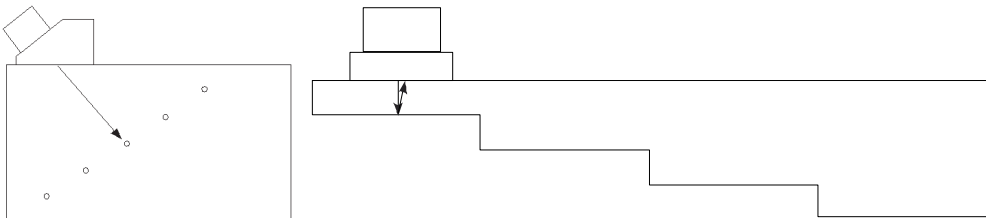

Figure 5-18 Calibration blocks for the DAC calibration
1. Place the probe on a calibration block, as shown in Figure 5-18 on page 135.